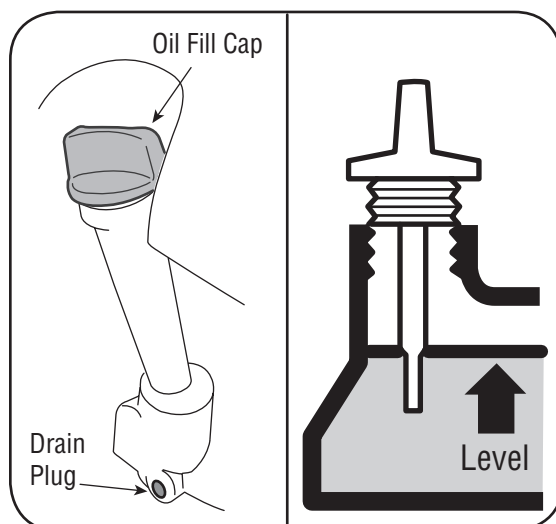

Figure 10-1: Changing the oil.
1. Remove oil fill cap and drain oil by either removing drain plug or turning mower on its side (air cleaner side up) and allowing oil to drain into a suitable container. See Figure 10-1.
3. Refill with the recommended oil (see Operation section) and check the oil level. See Figure 10-1.